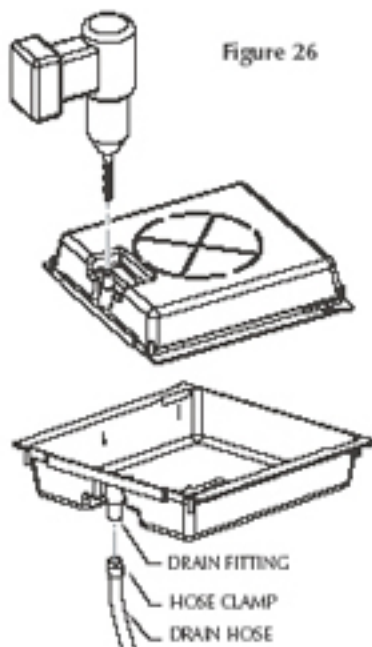

Figure 27
6. First install a 5/8" hose clamp (not supplied) over the end of the drain tube, then push the drain tube up over the drain fitting and secure in place with the hose clamp. (Fig. 27)